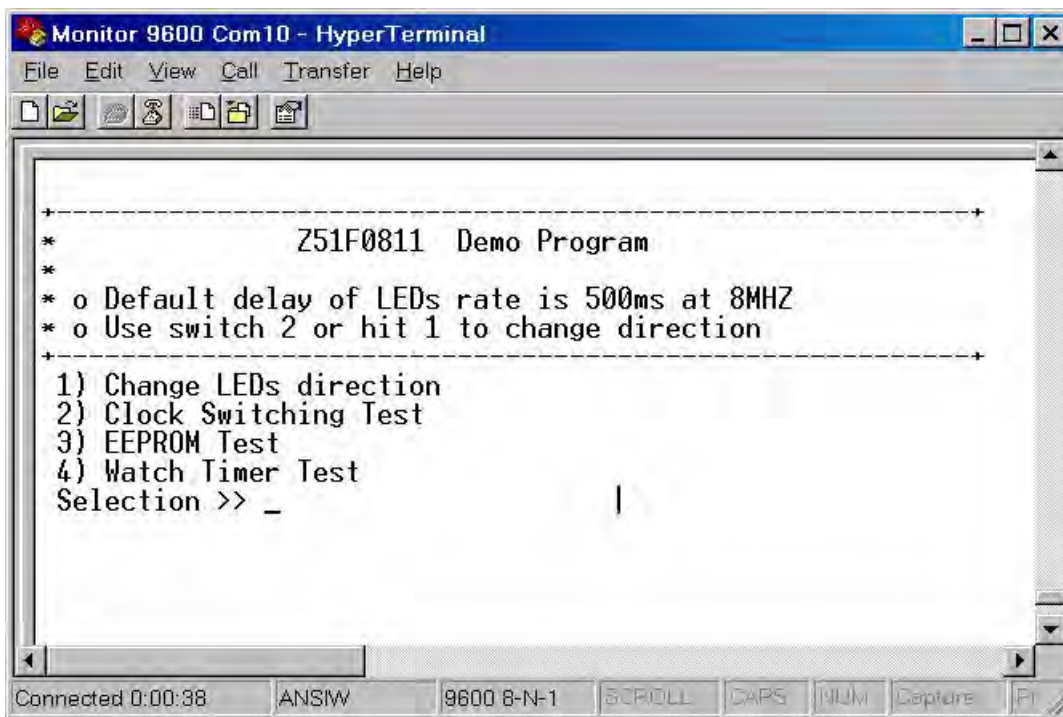

Figure 21. Demo Program Menu in HyperTerminal
3. Click the **Call** button to connect to the Z51F0811 Board. Upon connection, you should be able to see the Demo program menu shown in Figure 21.